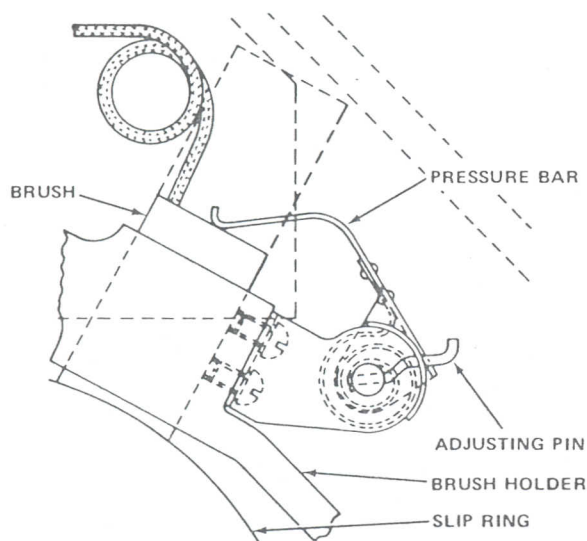

Figure 5-37. Typical Adjustable Brush Holder Assembly, AC Motors
8. On older AC motors, an adjustable style brush holder is used (see Figure 5-37). On this style of brush holder, brush tension will diminish as the brushes wear. The recommended brush tension is 3-1/2 to 4 pounds per square inch of brush contact area. Check this tension periodically, and correct the tension using the adjusting pin.